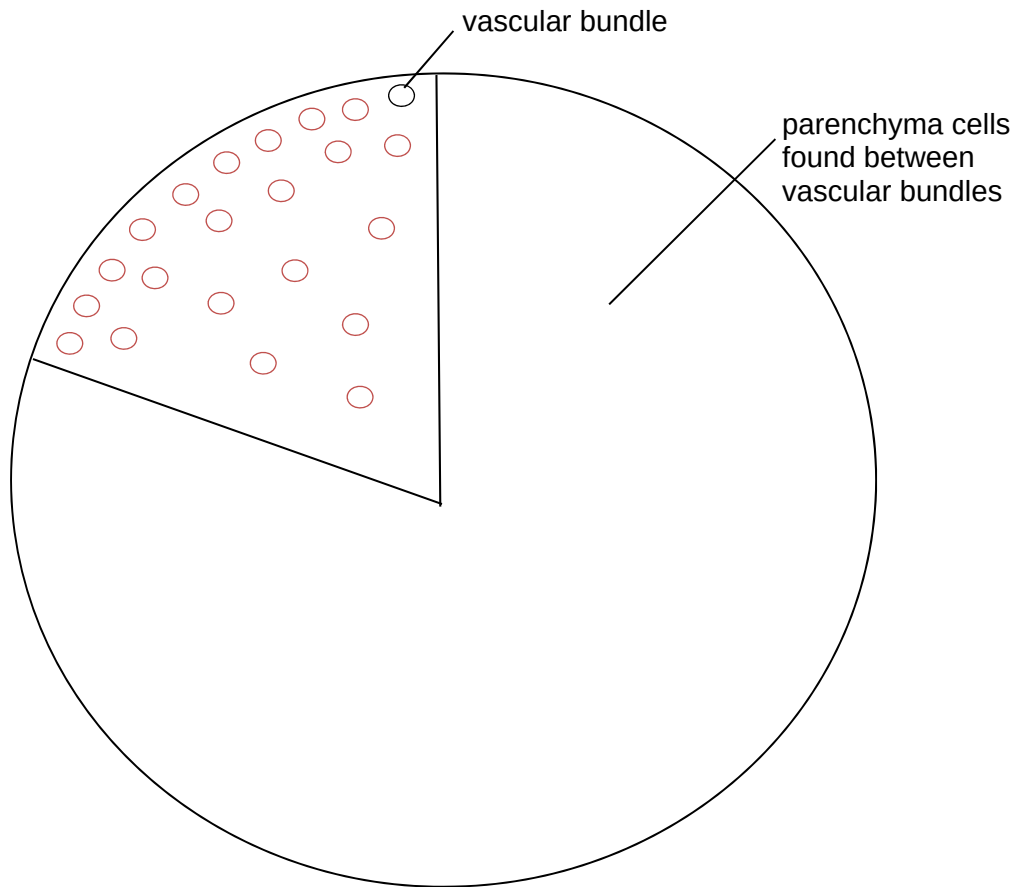

Fig. 2.1
You are provided with a microscope slide of a cross section of monocotyledonous stem **K1**. Fig. 2.1 shows an outline of the stem.
- 1 View **K1** using the **X4 objective** lens. Indicate the distribution of vascular bundles in one fifth of the stem in Fig. 2.1 using open circles, O. One vascular bundle is shown in Fig. 2.1. [2]